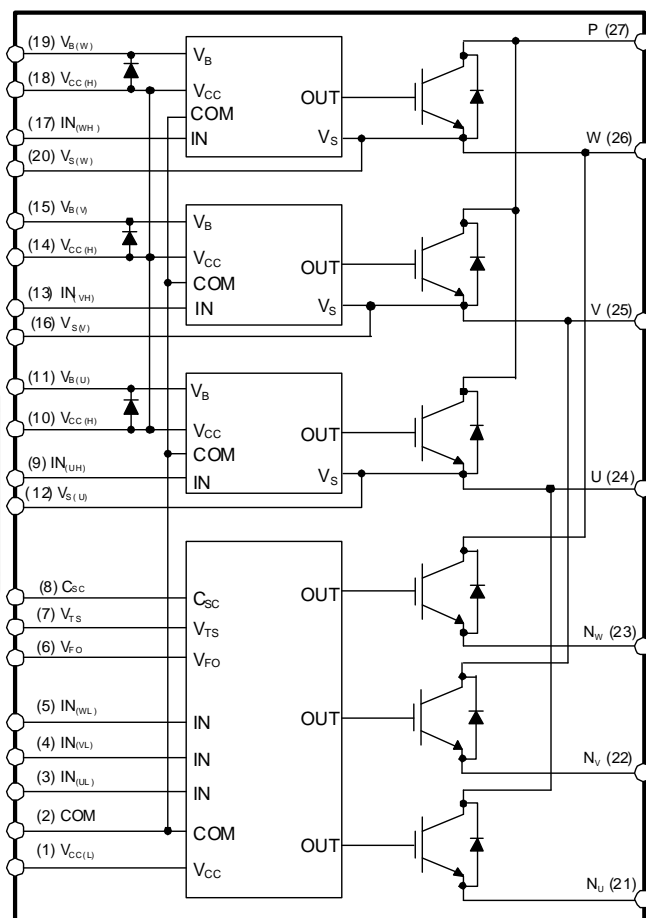

Figure 3. Internal Block Diagram
- 600 V - 30 A IGBT inverter for three-phase DC / AC power conversion (Please refer to Figure 3)